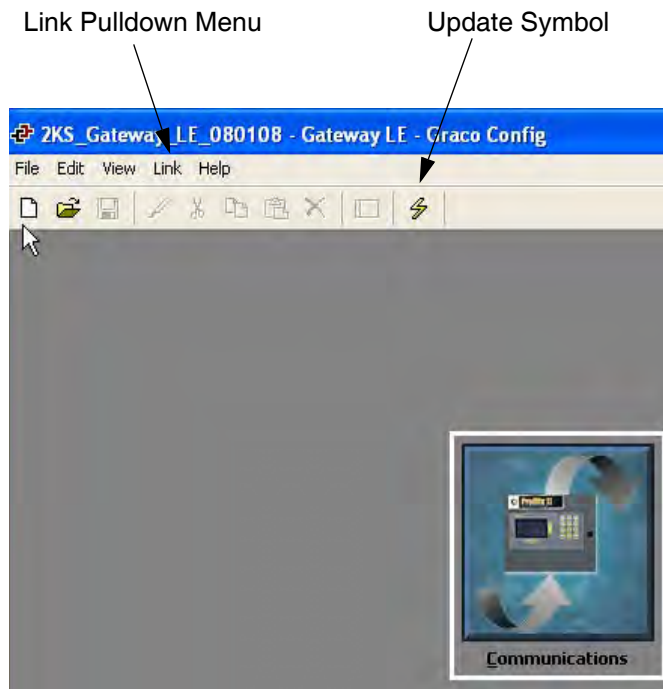

FIG. 16: GracoConfig Main Page
3. Go to File>Open and select the file with the xx.gg2 extension. The file name should appear at the top of the window (FIG. 16) once loaded.
4. Download the database using the Link>Update command. As a shortcut, use the Update symbol  on the toolbar. See FIG. 16.